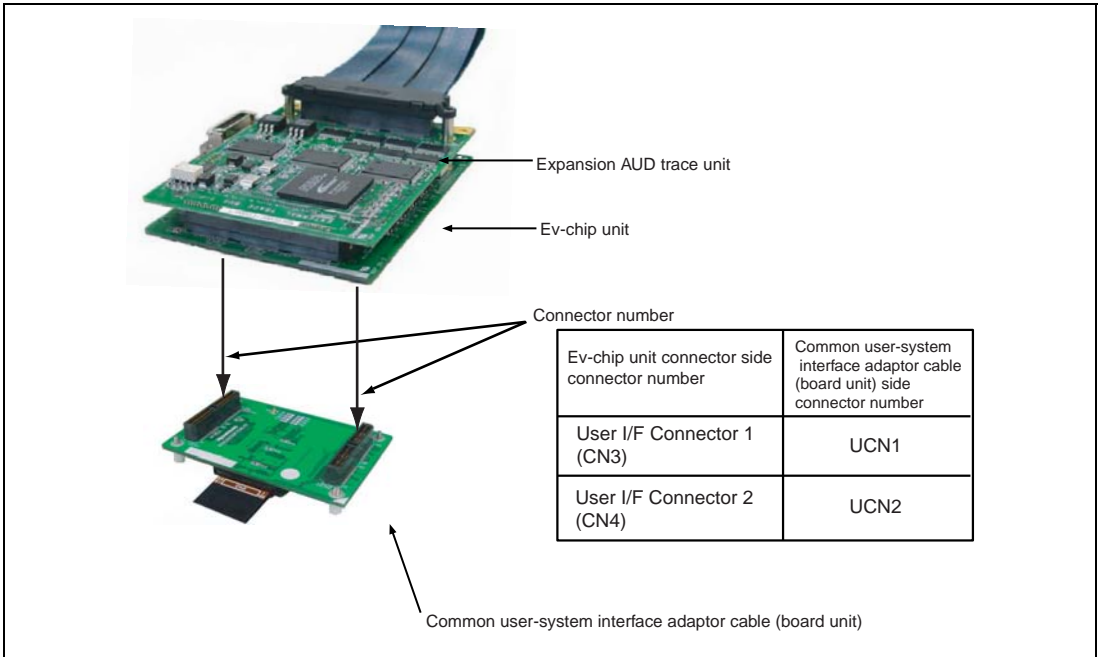

Figure 4 Connecting Common User-System Interface Adaptor Cable (Board Unit) to EV-Chip Unit
2. Align the connectors on the common user-system interface adaptor cable (board unit) with those on the EV-chip unit according to their numbers (figure 4).